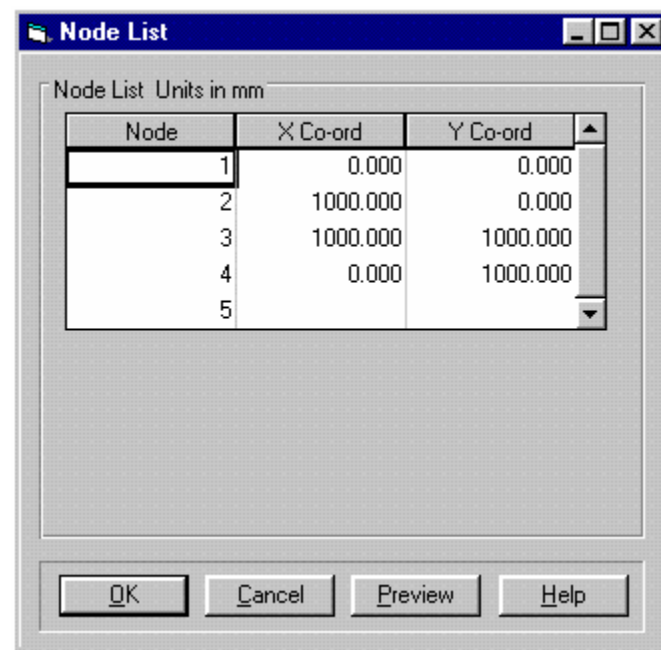

Figure 2-5:Node List dialogue box
- Step 4** Using the TAB key to move between cells, enter a total of four nodes with co-ordinates (0 , 0), (1000 , 0), (1000 , 1000) and (0 , 1000), as shown in Figure 2-5.